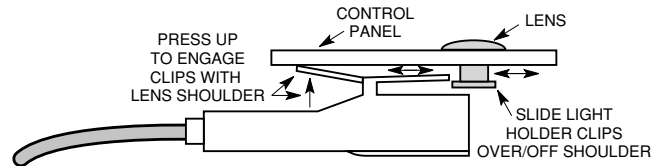

Figure 4-3
- a) Hold the lens in place with one hand and unclip the indicator light from the lens (see Figure 4-3).